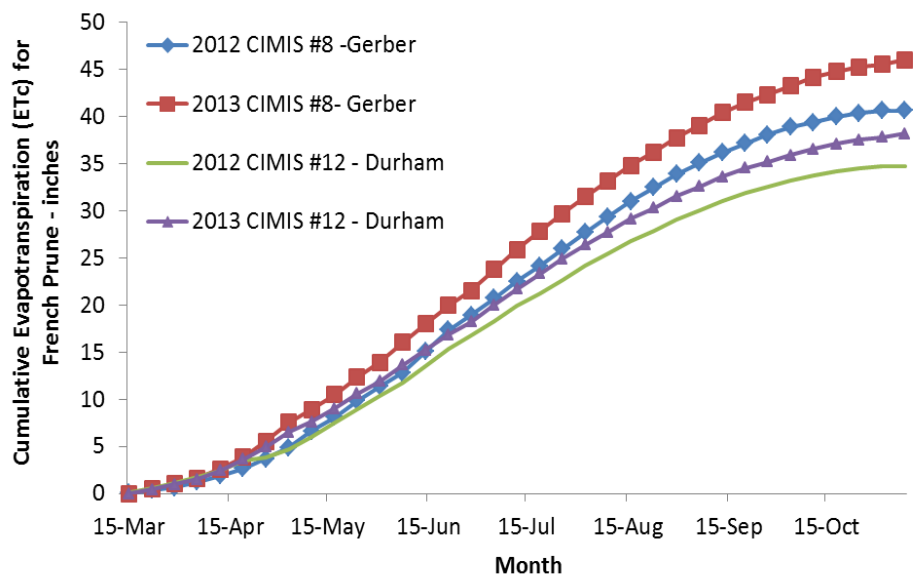

Figure 1. Cumulative water use by French prune orchard in Sacramento Valley.
The starting point for managing a high performing irrigation system is to understand the seasonal cumulative water use for prune trees where water supply is not limiting evapotranspiration (ET). **Figure 1** shows the water use patterns for prunes grown in different areas of the Sacramento Valley during 2012 and 2013. Real-time information for the 2014 season is available at cetehama.ucanr.edu. Click on Water/Irrigation Program, then click on Weekly Soil Moisture Loss Reports.
Before you decide how much fertilizer N to apply to your prune orchard, check to see if you have any “free” N that you can “deduct” from your annual N fertilizer budget. If ground water is used for irrigation, it may contain a significant amount of N as nitrate – as high as 60 lbs. N per acre foot of water in some wells used for prune irrigation in the Sacramento Valley (surface water contains little to no nitrate). Take a well water sample for nitrate analysis by a reputable lab. Pull the sample after the pump has run for several hours or even as much as 24 hours to make sure that the sample is representative of the irrigation water. How much irrigation water nitrate will be absorbed by the tree during a growing season is the topic of current research in almonds. For now, a conservative estimate is the amount of nitrate-N in the water used by the crop in a growing season or annual prune evapotranspiration (ET). Examples of how to calculate the amount of nitrogen delivered to your orchard from a certain volume of irrigation water are found at the end of this article (**Figure 1**). If you would like assistance calculating the “N credits” in your irrigation water, talk with your local UC Cooperative Extension Advisor or a Certified Crop Advisor (CCA). Many PCAs are CCAs.
Figure 1. Formulas to determine the amount of N (lbs. N per acre), when reported as either 1) nitrogen as nitrate or 2) nitrate, contained in a certain volume of irrigation water: